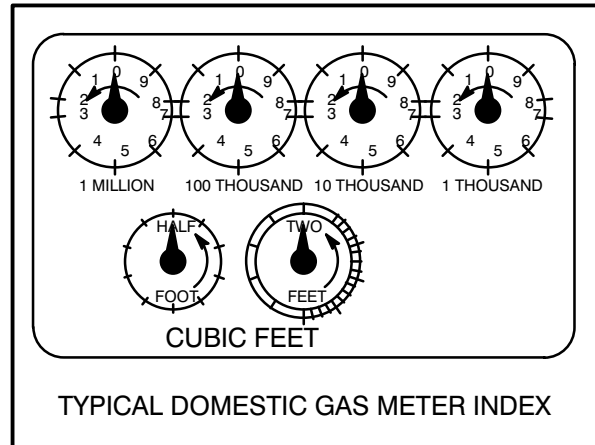

FIGURE 5
2. Using either the 1/2 cu. ft. or the 2 cu. ft. dials, note the time it takes the indicator to complete one revolution. See FIGURE 5.